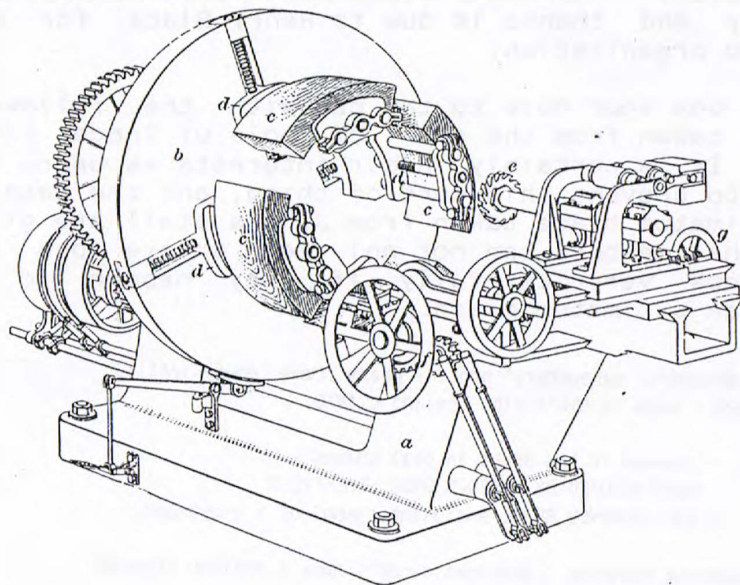

FIG. 51
60. Felloe-Shaping Machine.—In the manufacture of exceptionally heavy wheels, such as are used on large motor-traction vehicles designed to carry heavy loads, it is generally necessary to use machinery of a special class. These wheels are always of the artillery type, with forged steel hubs and strong wooden spokes; these latter are turned in a large copying lathe. The tangs should not be less than $1\frac{1}{2}$ inches in diameter; in some cases they are made square and are fitted into square mortises in the felloes. The latter, which may be as much as 12 inches wide, are made in a felloe-shaping machine, an example of which is shown in Fig. 51.